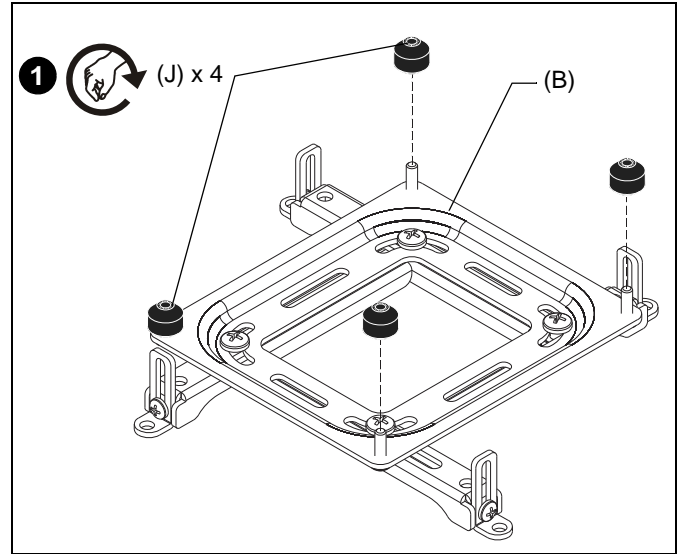

Figure 7
1. Install four thumb nuts (J) onto screw at each corner of interface bracket (B). Do not tighten completely. (See Figure 7)